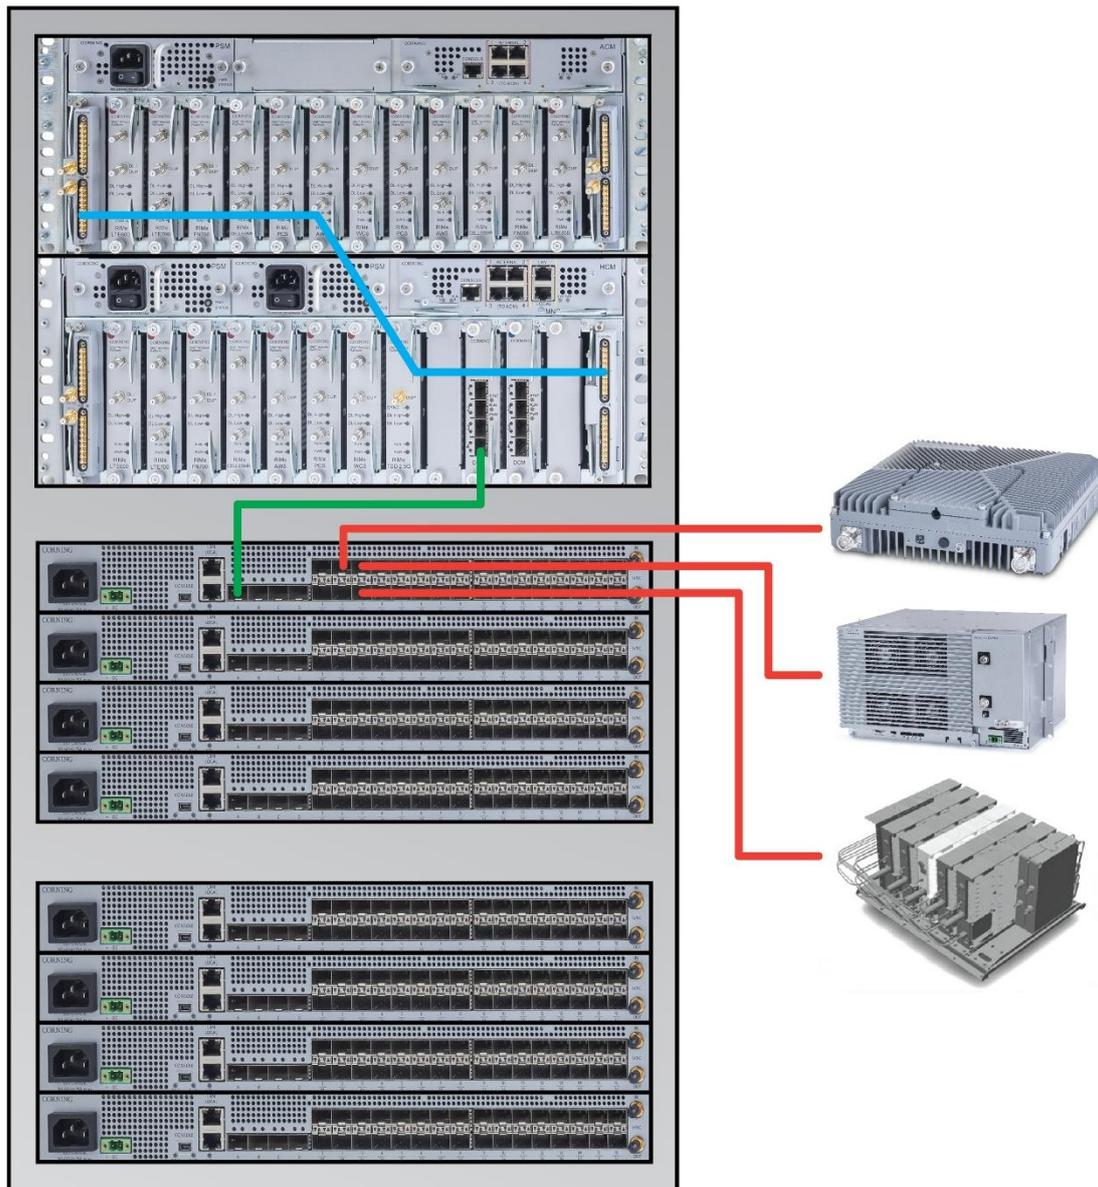

Figure 10: Example: Installation Diagram
1. Determine the location of the HEU in the rack while considering additional HEU and IHU units and the lengths of the available ERFC cable (see Figure 10: Example: Installation Diagram for an example configuration)
- The REF IN and REF OUT pilot clock ports must be connected in a closed loop as shown in Figure 10*
- Referring to Figure 10- for configurations with one HCM and more than four ACM modules (e.g. 4x4 HEU-OIU configurations) where there are only four available HCM INTERNAL ports